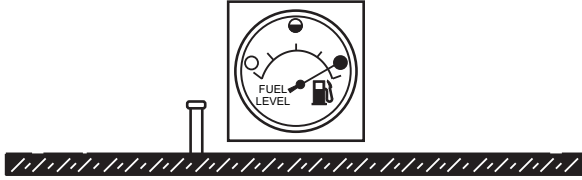

Figure 21. Full Fuel Tank
- NEVER overfill fuel tank** — It is important to read the fuel gauge when filling the trailer fuel tank. **DO NOT** wait for fuel to rise in the filler neck (Figure 21).